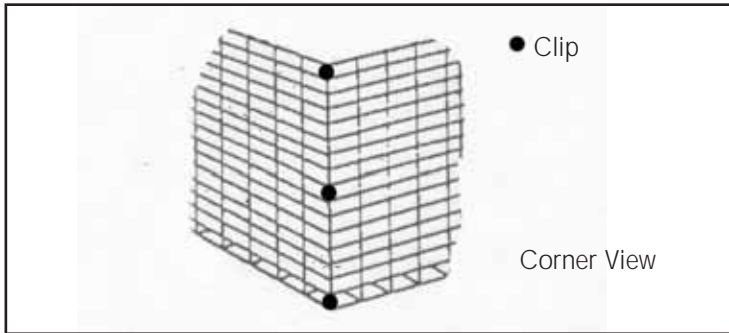

Figure 4
4. Raise two panels so that they meet at the corner. Fasten clips at each ● shown in Figure 4. Repeat for the other corners.